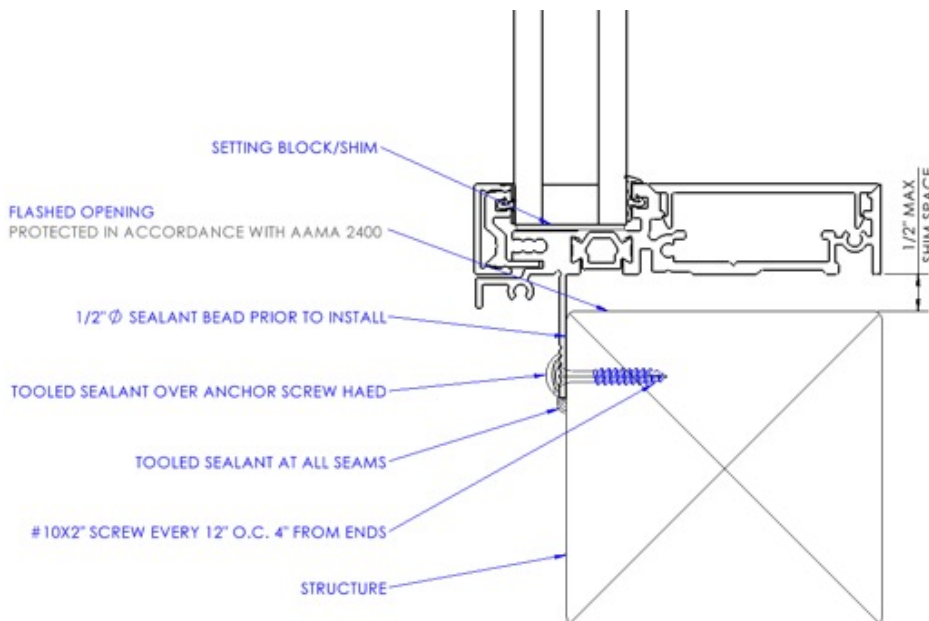

Figure 1
4. Anchor the window nail-fin to the structure through the nail fin with #10 x 2" screws every 12" on center and 4" from each corner. (See Figure 1).